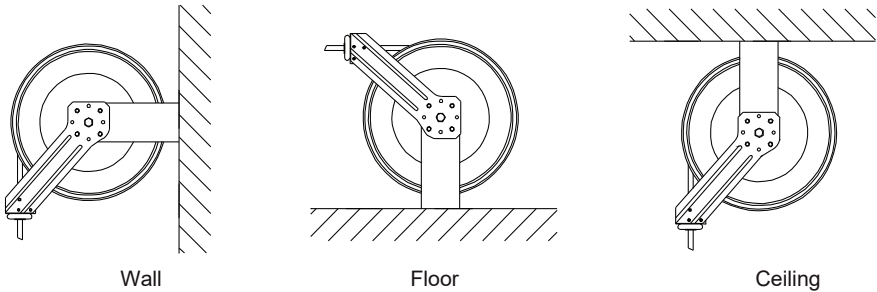

Figure 1
4. The reel is supplied with a hose guide roller bracket. The bracket position may be changed depending on the reel mounting position. Figure 1 shows "Typical Mounting Positions". If bracket position needs to be changed, do the following: